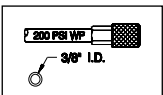

Fig.3
4. Connect the tool to an air compressor using a 3/8" I.D hose. Make sure the hose has a rated working pressure exceeding 200 PSI (13.8bar) and a female quick coupler. (See Fig. 3)